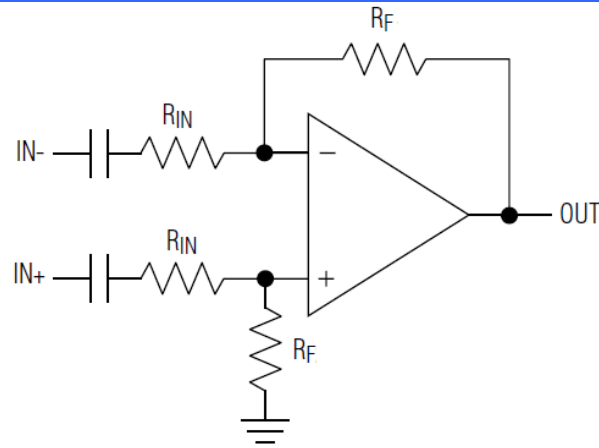

Fig. 2 Differential Input Configuration
The IC can be configured as differential or single-ended input amplifiers (Figures 2 and 3), making it compatible with all codecs. A differential input offers improved noise immunity over a single-ended input. In devices such as cellular phones, high-frequency signals from the RF transmitter can couple into the amplifier’s input traces. The signals appear at the amplifier’s inputs as common-mode noise. A differential input amplifier amplifies the difference of the two inputs while signals common to both inputs are cancelled. The gain of the HT97220(L) is set by: